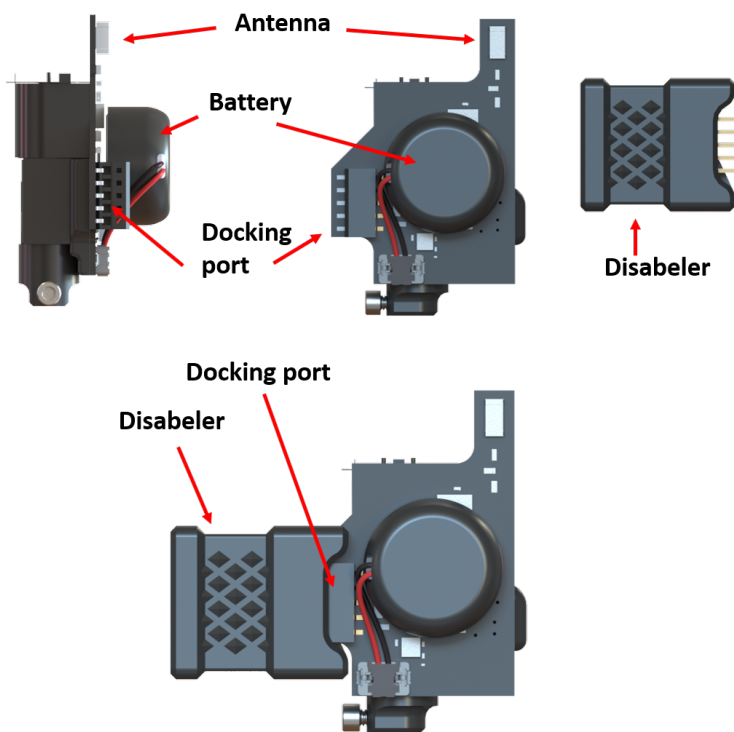

Figure 1.3: Headstage and disabler
The *Wireless Headstage* (Fig. 1.3) is an optic-electronic device that creates the link between the fiber optic cannula and the base-station. It contains LED drivers, two LEDs of choice (isosbestic + biosensor excitation), and a detector to both send light pulses for illuminating the fluorophores and collect the emission wavelengths. The headstage also uses a battery to power the LEDs.
- The **Antenna** (Fig. 1.3) is a small ridge on the side of the headstage used to transmit wireless photometry signal.
- The **Battery** is the source of power for the headstage to function. It can support around two hours of recording at the highest power of the LEDs. Once the battery is assembled to the headstage, it is ideal to not disconnect it in order to increase the longevity of the device. In fact, more than 20 disconnect-reconnect cycles can significantly loosen the connector on the headstage. Once the experiment is finished, to save the remaining power of the battery, the headstage should be connected to the battery charger base or the Disabler (Fig. 1.3). Otherwise, the headstage will continue to search for wireless connections and use the battery.
- The **Headstage connector** (Fig. 1.3), found on the underside of the headstage, links it to the 2.5 mm ferrule cannula via a small screw.
- The **Docking Port** (Fig. 1.3) is used by the *Headstage Charger* to recharge the headstage battery, as well as reprogramming it if necessary.
- The **Disabler** (Fig. 1.3) is used to disable the wireless connection to reduce battery degradation when the headstage is not used.